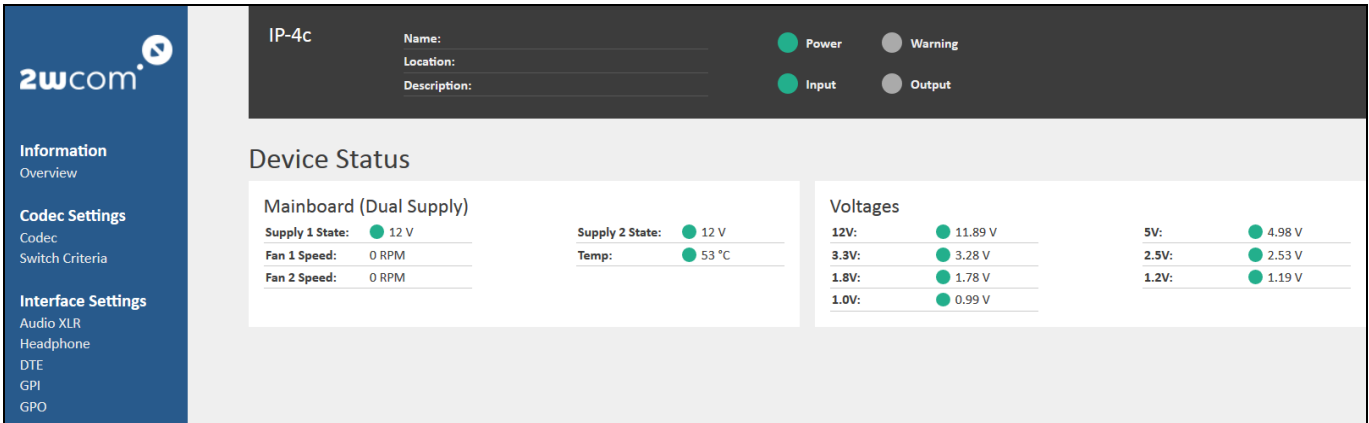

Figure 90: Status – Current electric voltages on the main board and power supply status
- To view the current status of the device, the status of both power supply units and of electric voltages on the main board, open the window *Device Status* under **Status**→**Device** (see Figure 90).